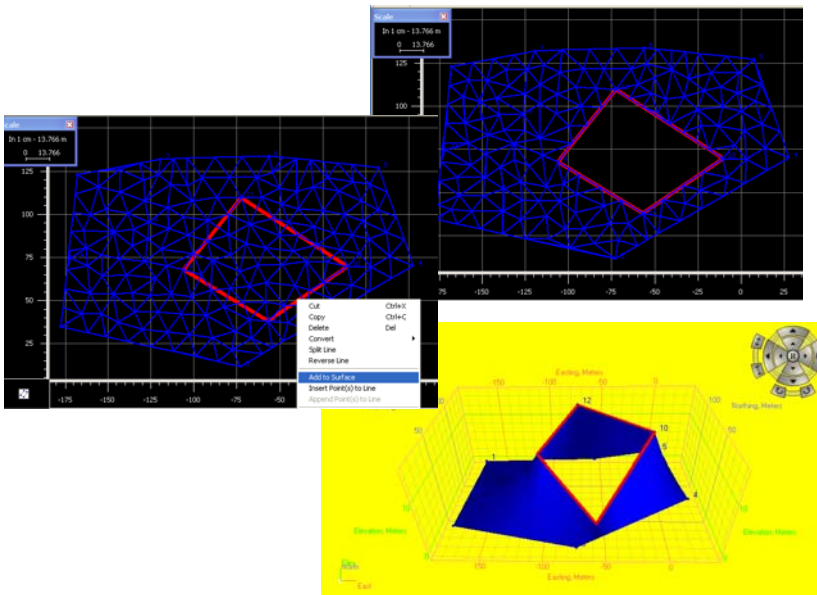

Figure 9-21. Creating a Hole in the Surface
3. Right-click and click the desired (other) surface to add the figure (Figure 9-21).